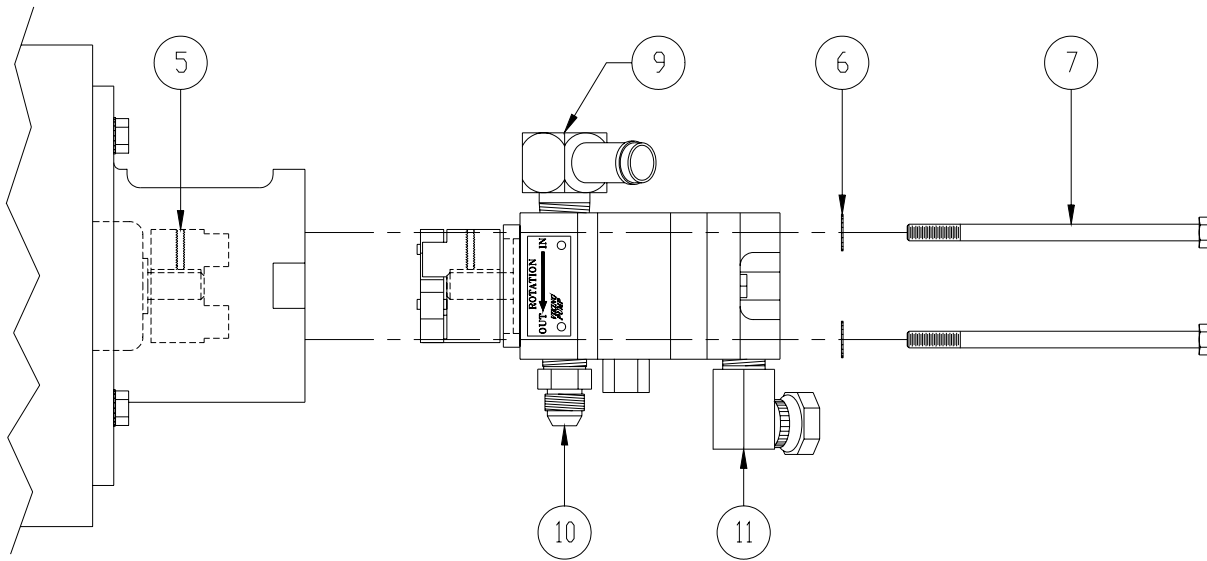

Figure 3
9. Refer to Figure 3. Locate the side of the pump with two pressure ports. Install fittings into the new pump in the same orientation and location as the old pump. Then turn the pump over and install the low pressure fitting into the suction port on the opposite side of the pump. Apply a thin coating of hydraulic Loctite 545 to all male fitting threads. Hand tighten fittings. Then wrench tighten only 1/2 a turn to the appropriate orientation. Do NOT over tighten any fittings, as this may crack the body of the pump.
12. Mount the pump to the bracket as originally oriented using four 5/16-18 X 5-1/2 bolts and four 5/16" lock washers. Apply a thin coating of Loctite 242 to the bolts. Torque the bolts to a maximum of 15 ft.-lbs. **Do NOT over torque the bolts, as this will damage the pump.** Refer to Figure 3.